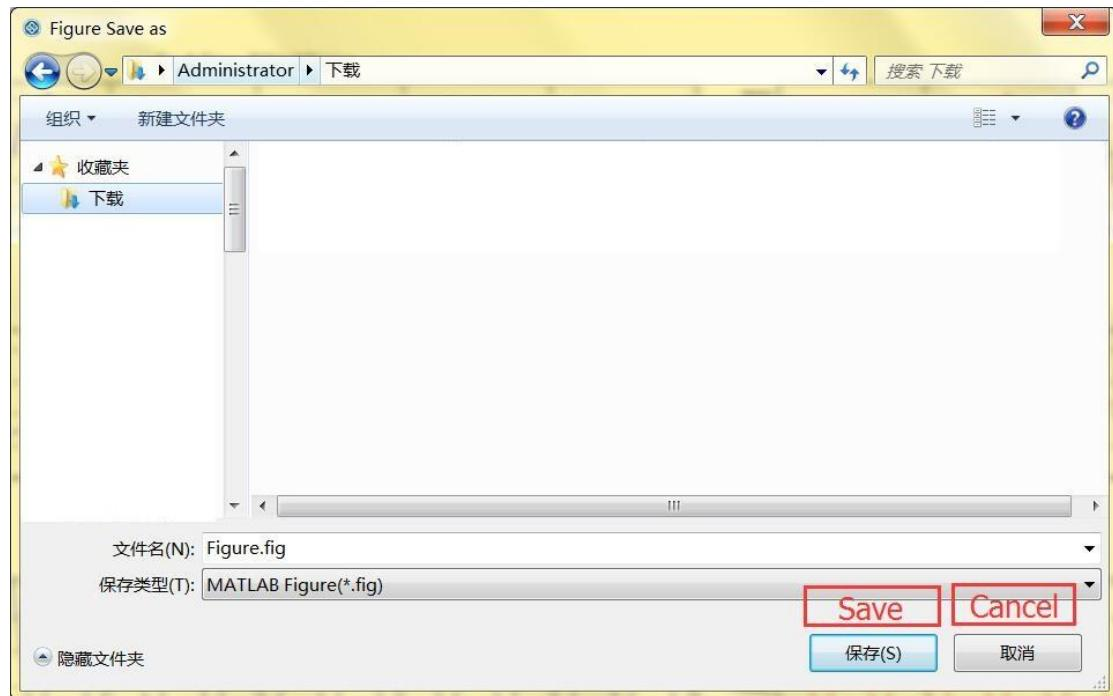

Fig. 39 Save simulation figure
- 5) Click the ‘Save Plot’ button, it will pop-up the ‘Save Plot’ window, as shown in Fig. 39.